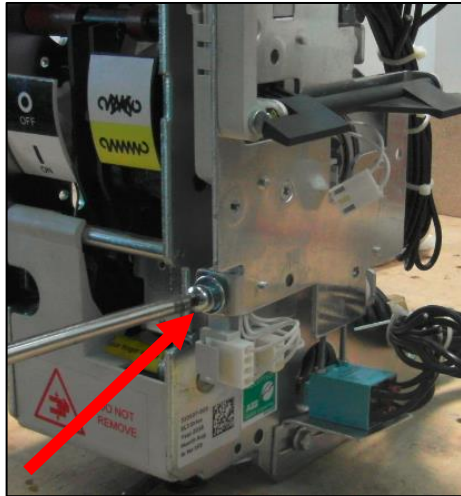

Figure 12 - Coils-bracket-assembly removal
2. Remove coil-bracket by unscrewing the coils-bracket-assembly screw (Figure 12), verify the screws used to fix the different coils are tight, re-assemble the coil-bracket-assembly on mechanism.